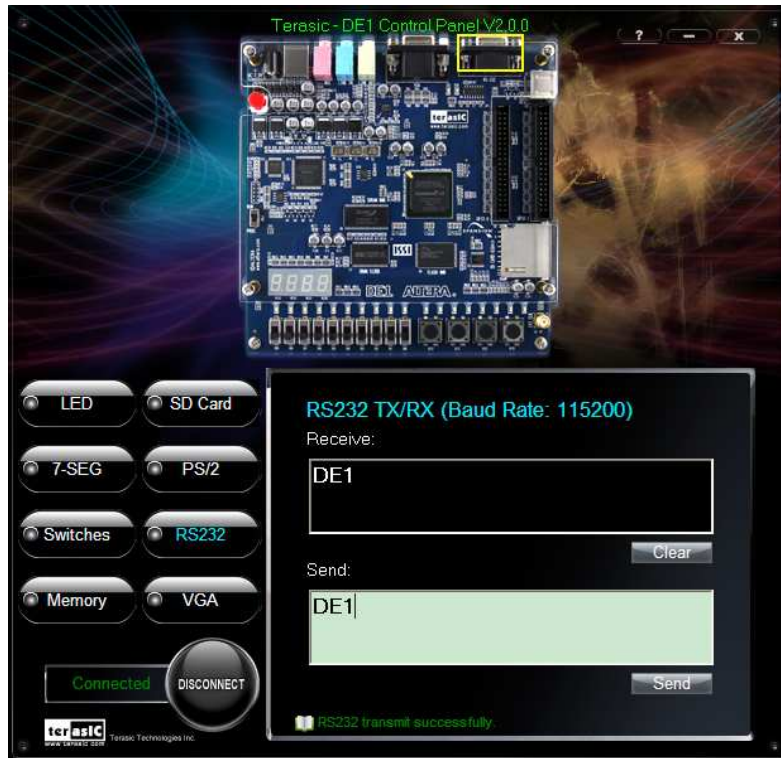

Figure 3.9. RS-232 Serial Communication.
1. Choosing the RS-232 tab leads to the window in Figure 3.9.